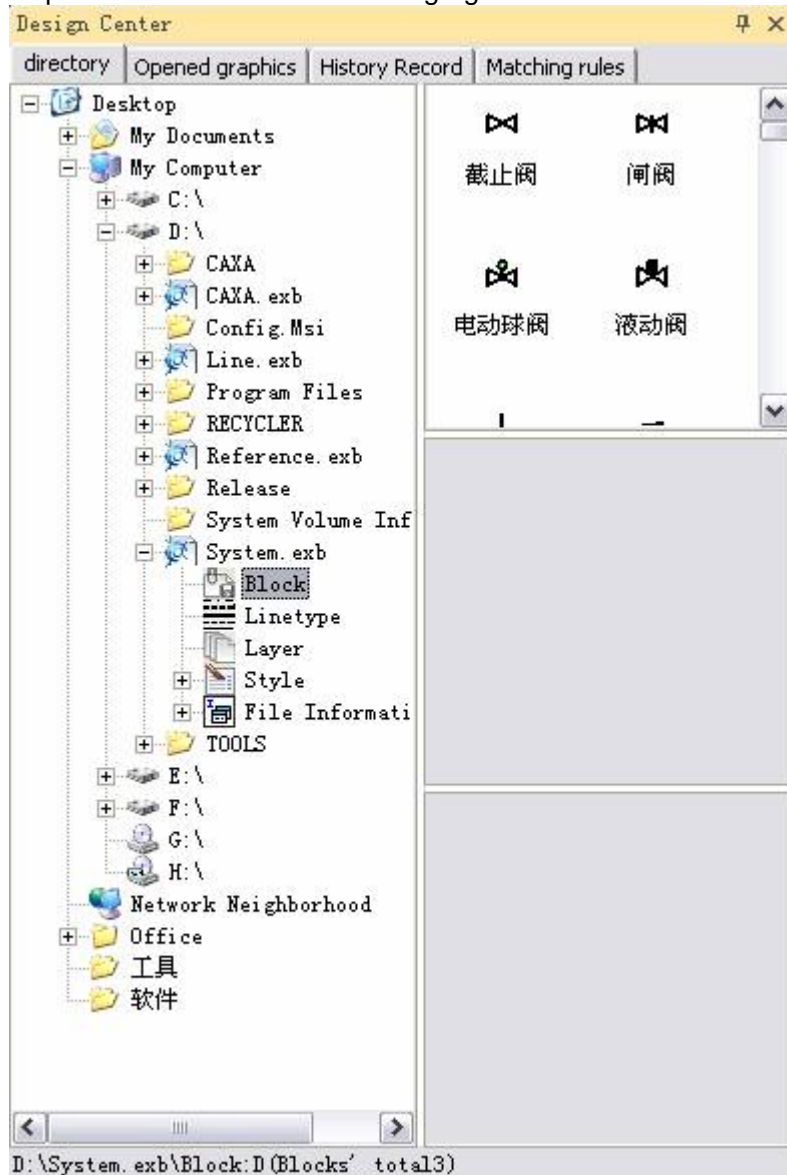

Figure 9-35 Interface of Folder
- 2) External tool in the place of function area is Tool option card, as shown in figure 9-35.